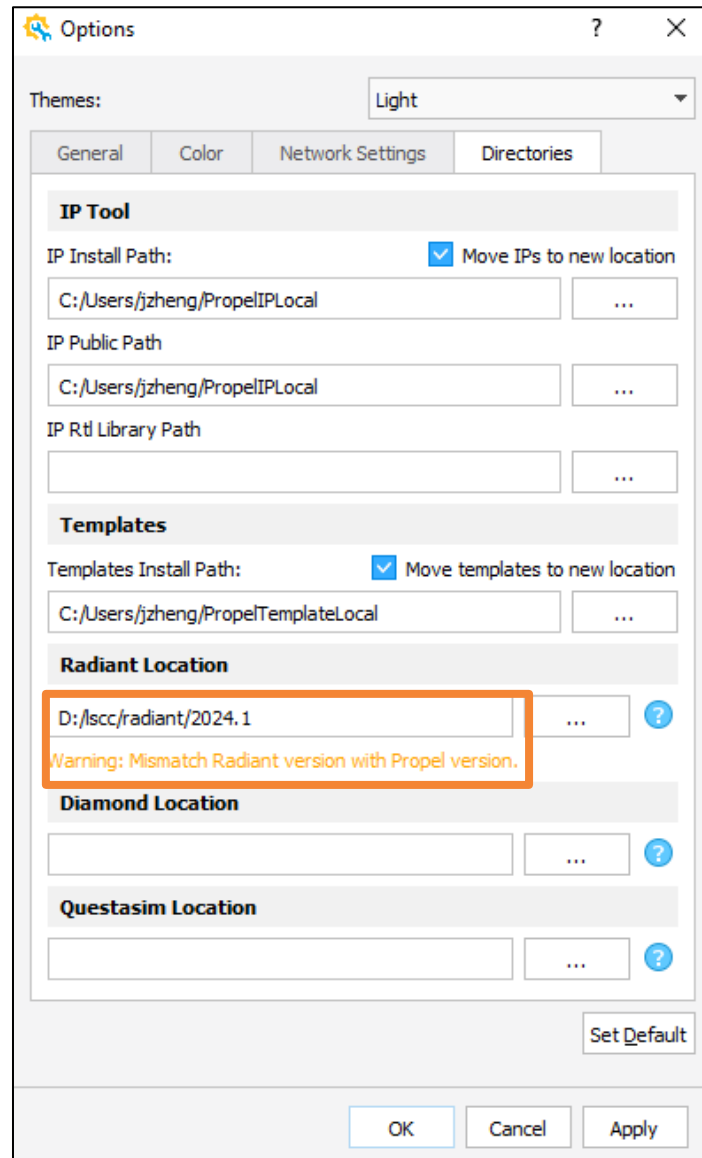

Figure 2.139. Mismatch Radiant with Propel
- Radiant Location (Figure 2.139): Folder where Radiant software installed.
- Diamond Location (Figure 2.139): Folder where Diamond software installed.
- Questasim Location (Figure 2.139): Folder where Questasim software installed (see Launching Simulation section for more information).
It is recommended to use the same version of Radiant and Propel for best compatibility. If the Radiant version is not compatible with current Propel version, there are warning message(Figure 2.139). If no Radiant is set, Propel Builder use the latest Radiant it detects.
Introduction for IP Tool (Figure 2.139):
- IP Installed Path (Figure 2.139): Folders of the IPs that are downloaded and installed. Refer to the Generating and Instantiating IP/Module section for more details.